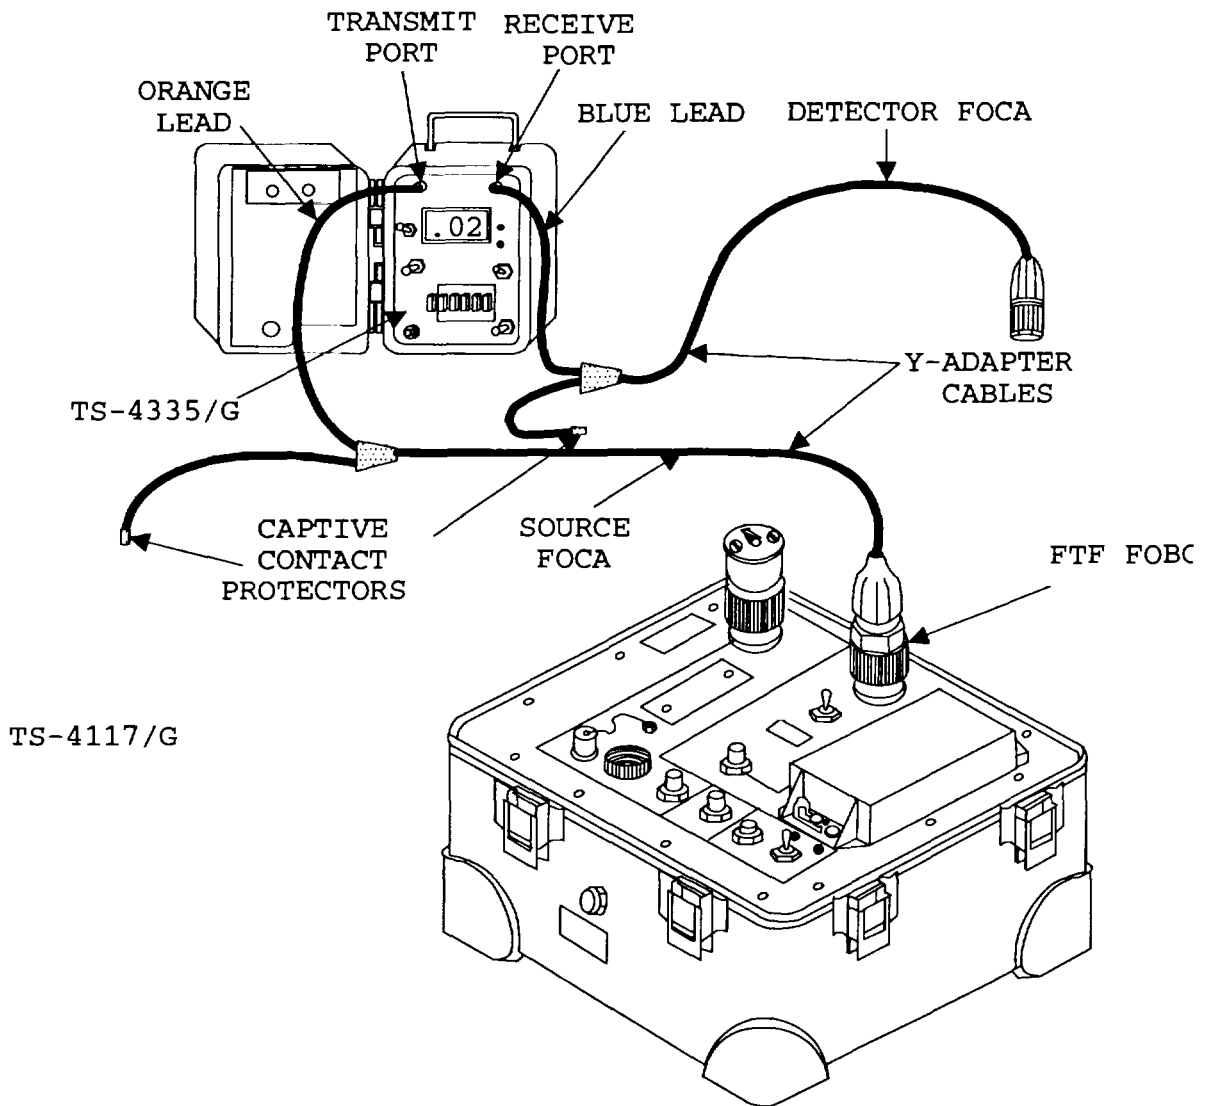

FIGURE 5-19. TS-4335/G to FTS Connection.
- (2) Unmate fiber optic connectors of two Y-adapter cables.
- (3) Connect Y-adapter cable (orange lead) from TRANSMIT port of TS-4335/G to FTF FOBC on FTS (refer to Fig. 5-19).
- (4) Set MODE switch on FTS to ABS.
- (5) Record FTS OSM display reading in block I(a) of data sheet.
- (6) Disconnect Y-adapter cable from FTS.